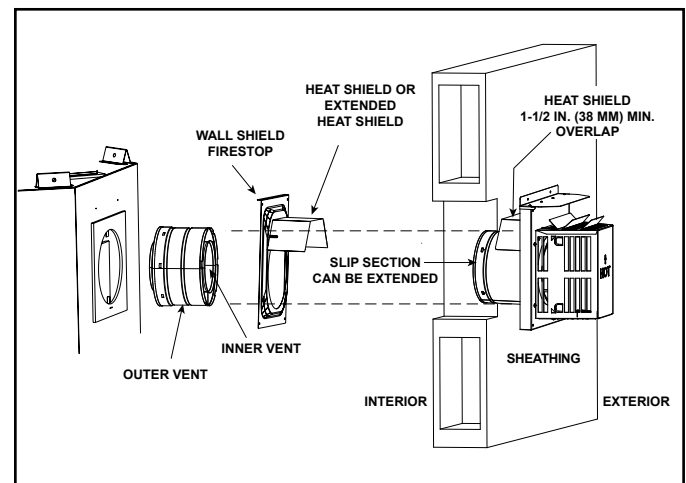

Figure 7.15 Venting Through the Wall
- **DO NOT** remove the heat shields attached to the wall shield firestop and the horizontal termination cap (shown in Figure 7.15).
There are two sections of the heat shield. One section is factory-attached to the wall shield firestop. The other section is factory-attached to the cap. See Figure 7.15.